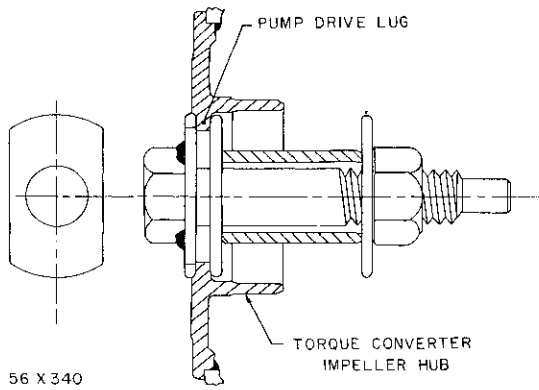
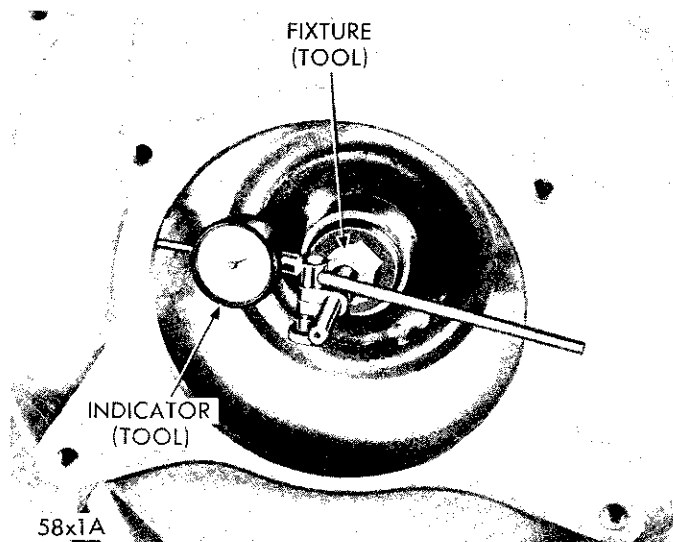

Fig. 102—Torque Converter Hub Showing Tool C-3461 Installed
Fig. 103—Checking Housing Bore Runout (Typical)
(1) Mount Tool C-3461, shown in Figure 102, inside the converter with the ears of the washer behind the converter pump drive lugs. The square end of the bolt can be held with a wrench as the nut is tightened. The dial indicator set, Tool C-3339, can now be attached, as shown in Figure 103.
(2) Locate the indicator so that it is bearing on the transmission pilot bore of the converter housing and rotate the converter.
(3) The runout must not exceed .010 inch total indicator reading.